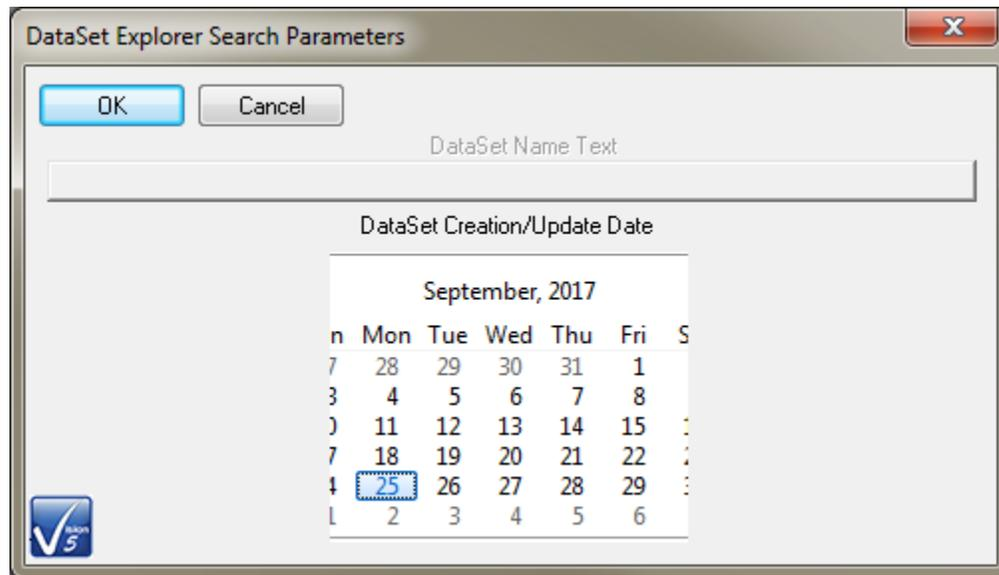

Figure 8 – Search Explorer By Create Date/Last Update Dialog.
2. By Create Date <Ctrl-F3> - Locate the first instance of a registered DataSet, created on the specified date, in the DataSet Explorer. A search dialog opens as in **Figure 8**.
3. By Last Update Data <Alt-F3> - Locate the first instance of a registered DataSet, created on the specified date, in the DataSet Explorer. A search dialog opens as in **Figure 8**.